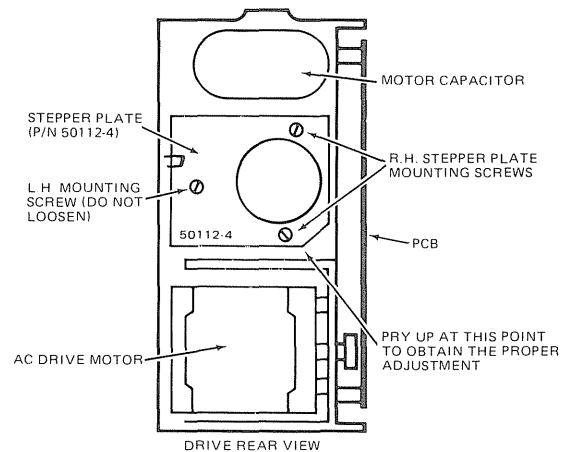

FIGURE 12
- g. Slightly loosen the 2 R.H. stepper plate mounting screws only. Reference Figure 12. Do not loosen the L.H. screw as this will effect the head penetration adjustment.